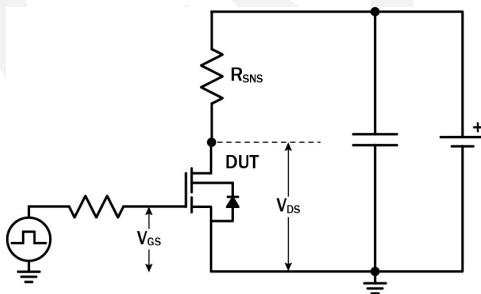

Figure 18. Dynamic  $R_{DS(on)eff}$  Test Circuit
- Dynamic RDS(on) value; see Figures 18 and 19 for conditions